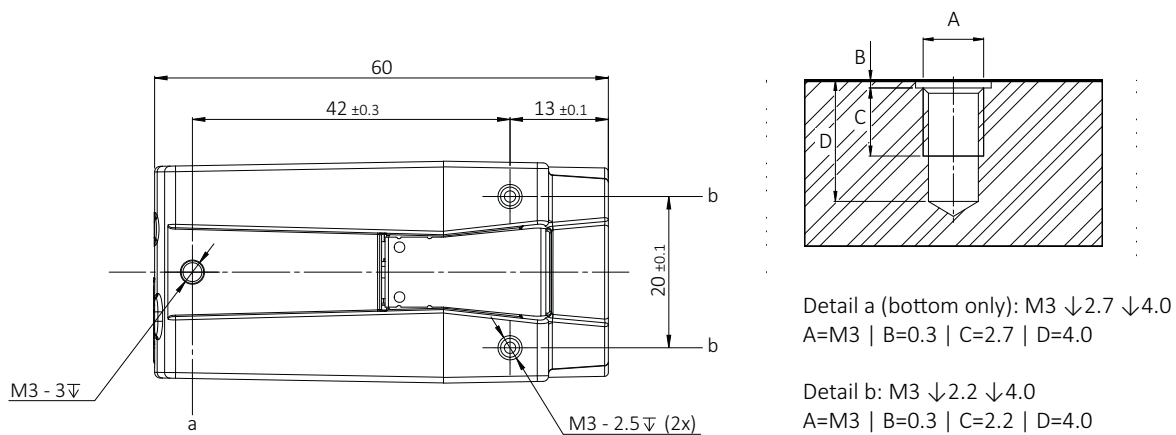

Figure 46: Mounting threads bottom (a and b) and top (b)
1. As shown in Figure 46, mount the camera to the base using suitable M3 screws
- a. Mounting thread a (bottom only): At 0.62 Nm maximum torque for a thread engagement (C) of 2.7 mm between screws and mounting threads.
- b. Mounting thread b: At 0.51 Nm maximum torque for a thread engagement (C) of 2.2 mm between screws and mounting threads.